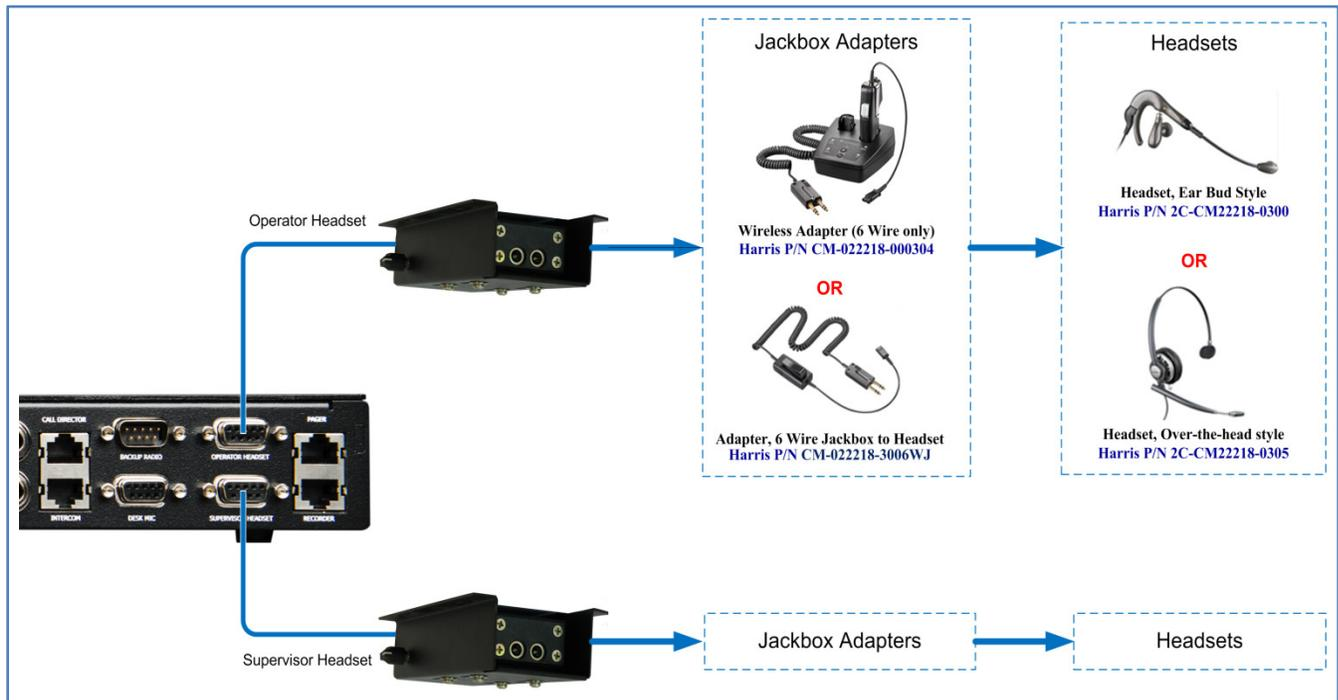

Figure 6-5: Wiring Headset Options
Using headsets that are connected to the platform using a Jackbox enables operators or supervisors to have hands-free mobility. The headsets connect to the Jackbox via a wired or wireless PTT adapter that uses a dual pronged PJ-7 style connector to plug into the Jackbox. The Jackbox is hardwired to the platform using separate connection points for the Supervisor and Operator headsets as shown in Figure 6-5.
4. The headsets may then be connected to the Jackboxes via the Public Safety PJ-7 style 2-prong connector as shown in Figure 6-5.